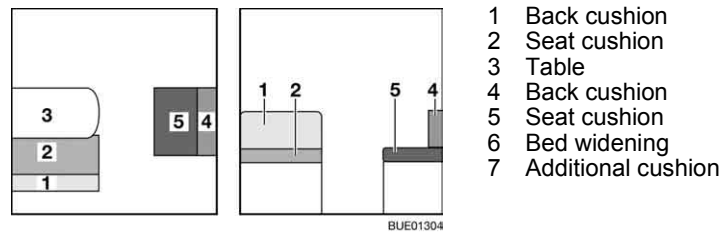

Fig. 126 Prior to conversion
- Convert the table (Fig. 126,3) to a bed foundation (see section 6.11).
- Remove the back cushion (Fig. 126,1) and place them on the table.